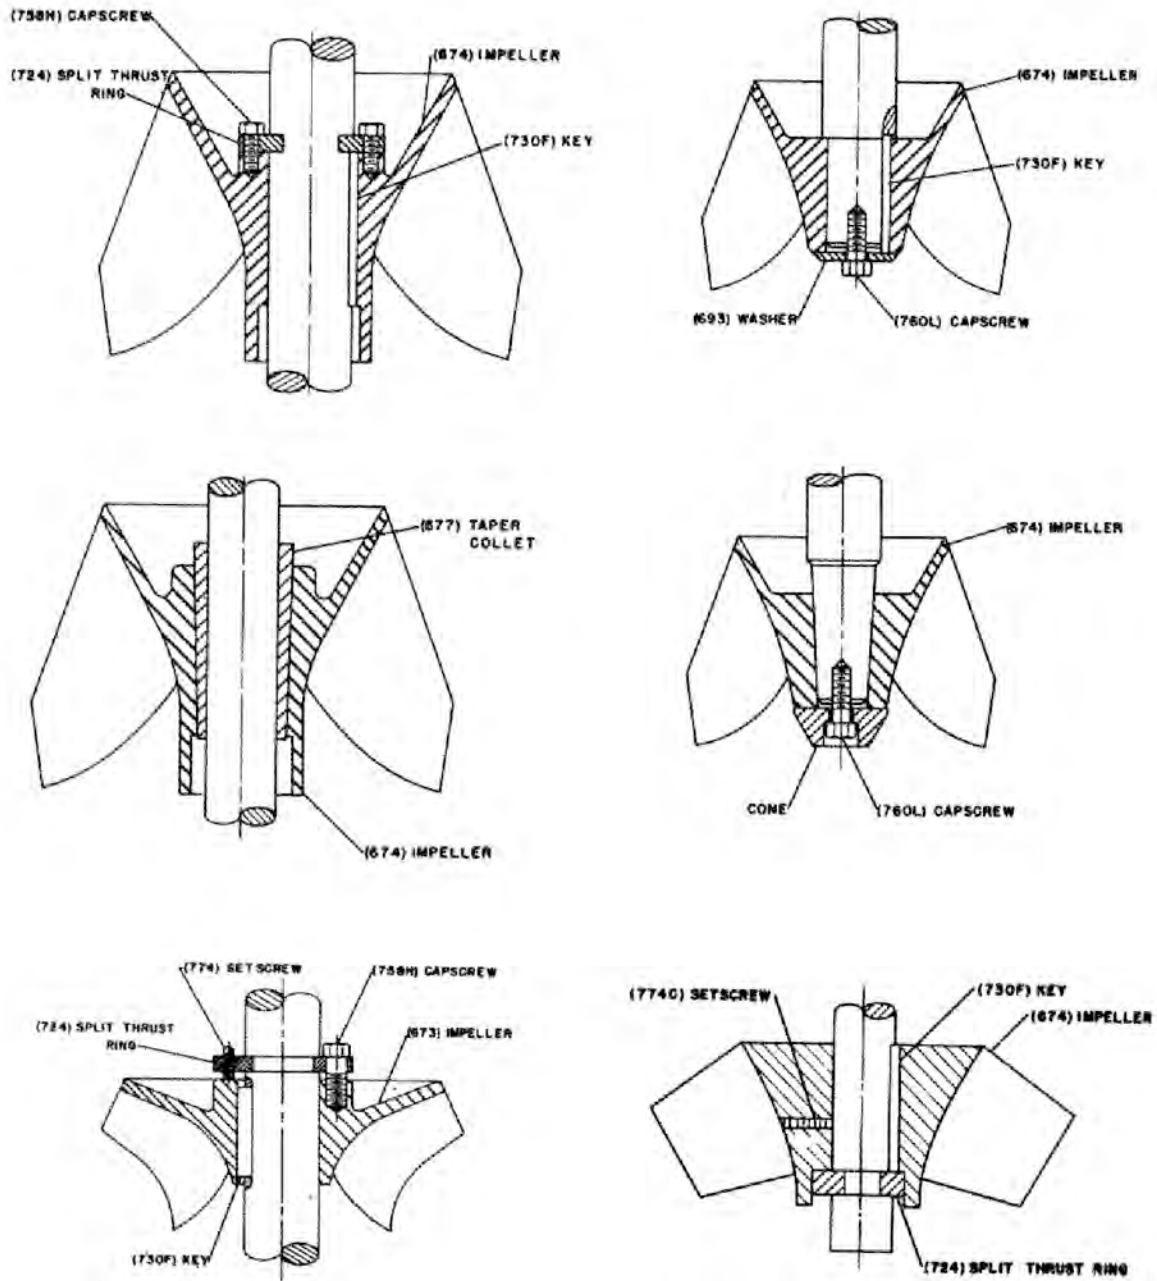

Figure 18: Mixed flow impellers various constructions
(See Figure 18: Mixed flow impellers various constructions on page 49.)
See Figure 18: Mixed flow impellers various constructions on page 49.
1. Press in new bearings (672), (709), (690) as required utilizing an arbor press or other suitable tool.
2. Install mixed flow impeller (674) on pumpshaft (675), slide impeller until groove is exposed and install thrust ring (724).
3. Slide impeller over thrust ring and secure with setscrew (774C) or install snap ring in impeller hub groove as required. See Figure 18: Mixed flow impellers various constructions on page 49.
4. Assemble suction bell (689) onto pumpshaft.
5. Install diffuser case (708) to suction bell and secure with capscrews provided.